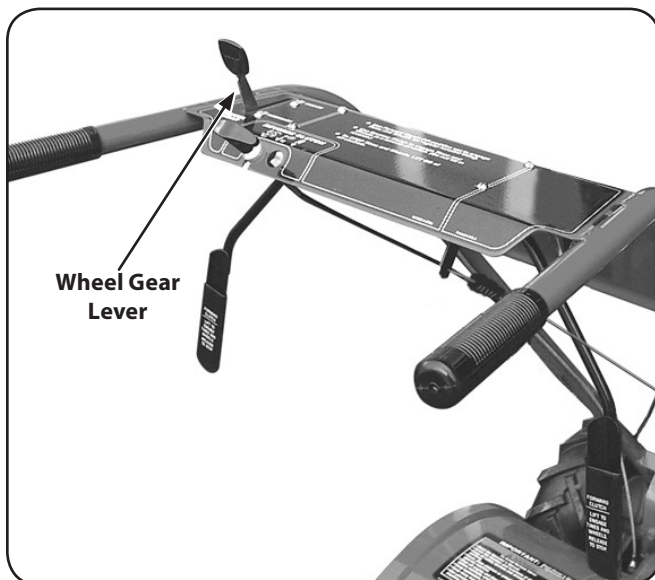

Figure 3-9
1. Insert the Wheel Gear Lever up through the slot in the control panel that is labeled "WHEEL GEAR." See Figure 3-9.